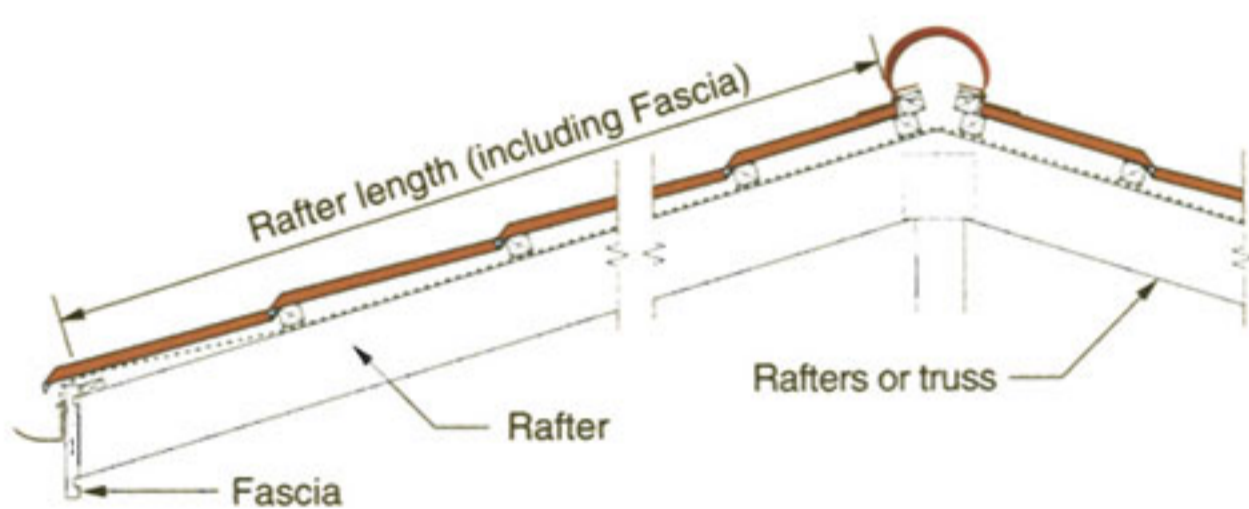

Fig 5.1.1
- Determine the rafter length (Fig 5.1.1) and calculate the number of courses of tiles from Table 5.1. Always ensure that fractional tiles are counted as whole tiles as these will have to be cut at the ridge board.